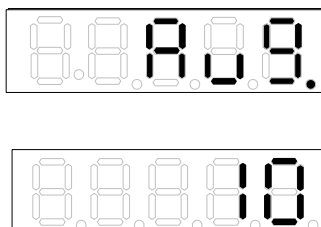

Figure 4-18 Setting Avg and the average number
3. In AC voltage parameter display a blinking pattern will appear. Use **↑**, **↓** to select Avg and press **Trig/Enter** to save the setting and go to average number setting display as Figure 4-18 shows.